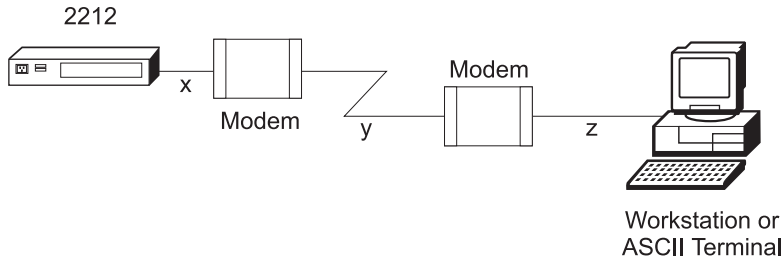

Figure 3-2. Remote Terminal Connection to the EIA-232 Service Port
- Remote dial-in (using telephone lines) through a modem attached to the EIA-232 service port using an ASCII or Serial Line Internet Protocol (SLIP) connection. See Figure 3-2 on page 3-2. "Modem Settings" on page 3-3 lists the modems that have been tested for use with the IBM 2212.
connected by telephone lines (x, y and z in Figure 3-2 on page 3-2), you must comply with the following rules: